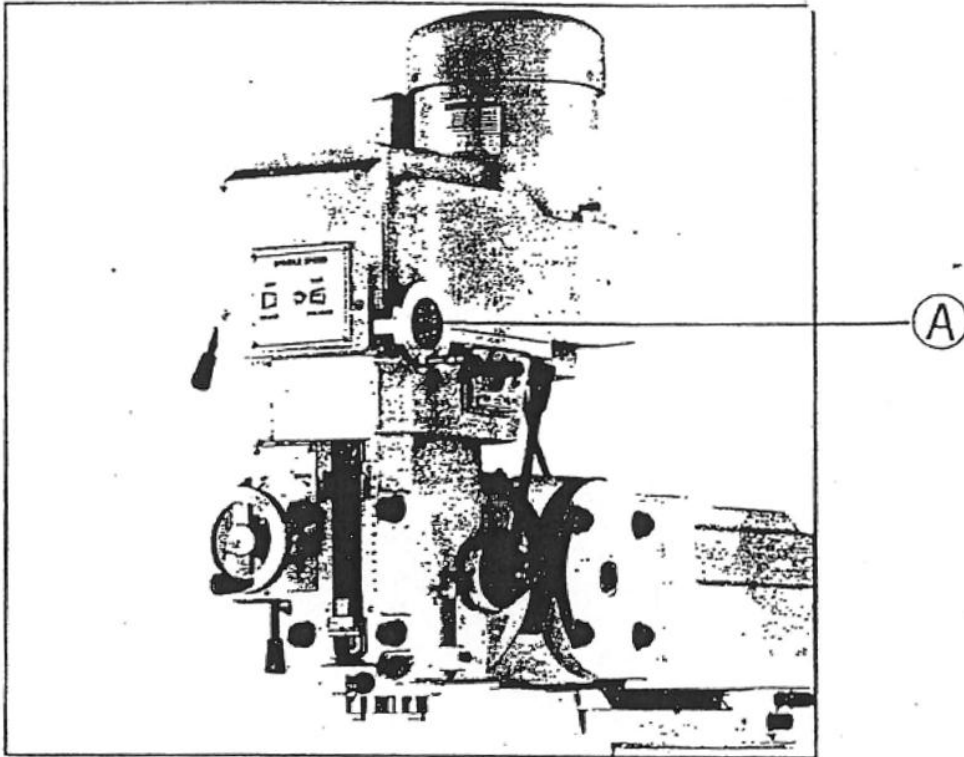

Fig. 5
Stepless speed variation between high and low speeds may be controlled by means of the turning hand wheel (A) (Figure 5). When it is turned clockwise, it is for higher speed.